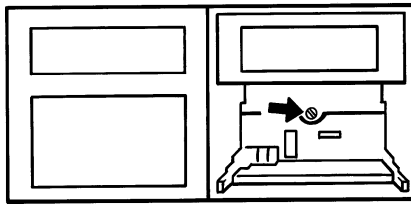

Figure 7.6.1a Securing screw location
2. For graphics recorders, continue at instruction 3. For non-graphics recorders, open the recorder door and remove the chart cassette and the pens/printhead. Undo the retaining screw (Figure 7.6.1a) and pull the chassis gently out of the case until the flexi cable connector at the rear of the writing system can be accessed. Continue at instruction 4.